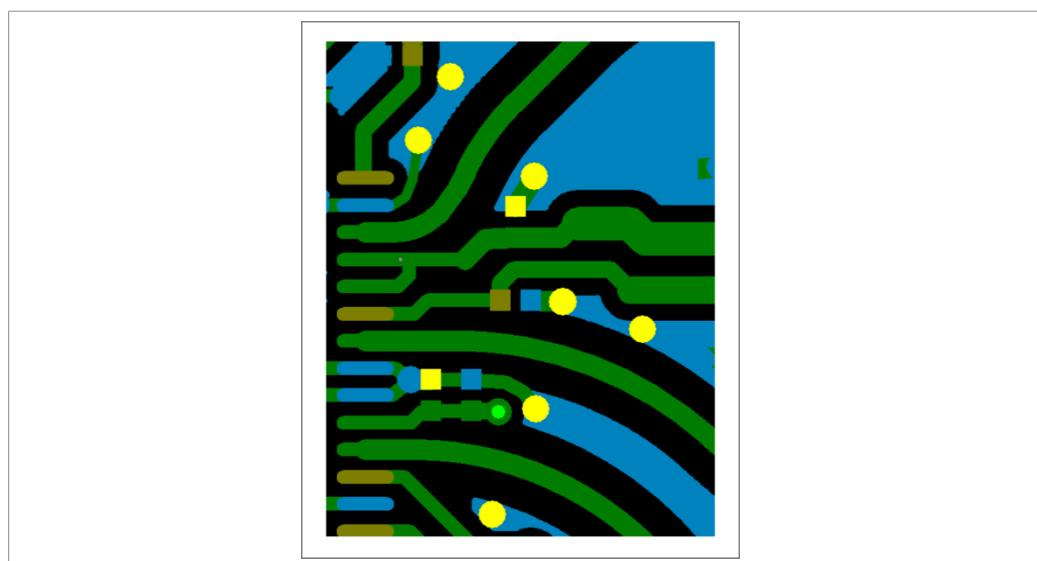

Figure 24. Ground pour along with RF trace end with a ground via
- Extend the ground plane between paths as much as possible. Extend the ground to the point where a ground via can be placed at the end, as shown in Figure 24.